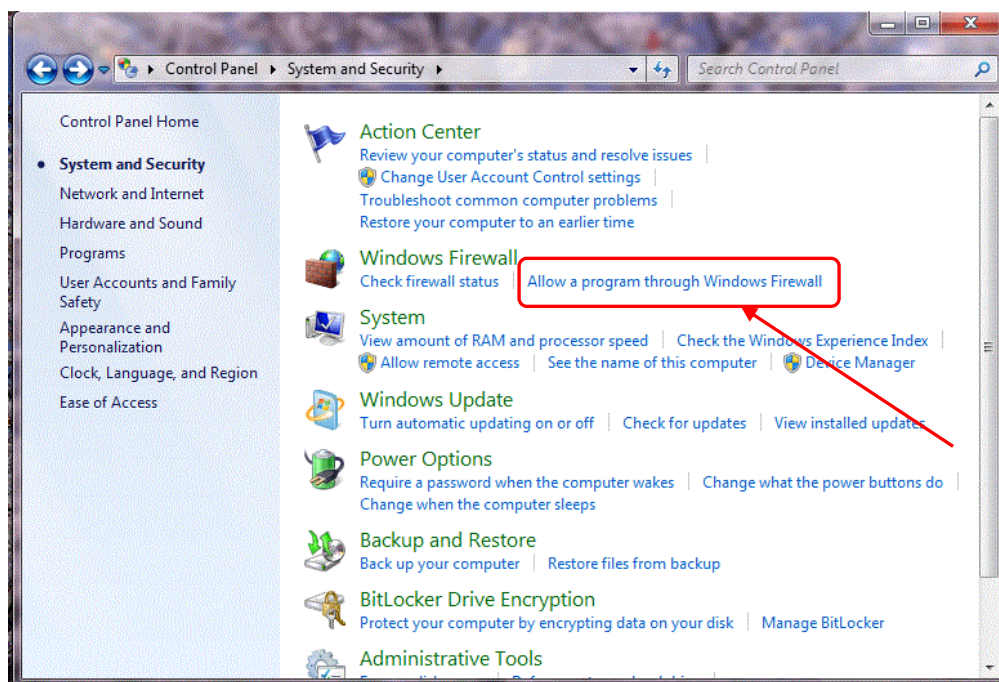

Figure III-26. Windows 7 Firewall Selection in Control Panel
- a. Click the “Allow a program through Windows Firewall” link (Figure III-26).